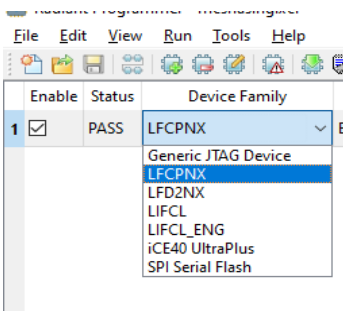

Figure 4.4. Radiant Programmer – Device Selection
3. In the Radiant Programmer main interface, select **LFCPNX** for Device Family and **LFCPNX-100** for Device, as shown in Figure 4.4.